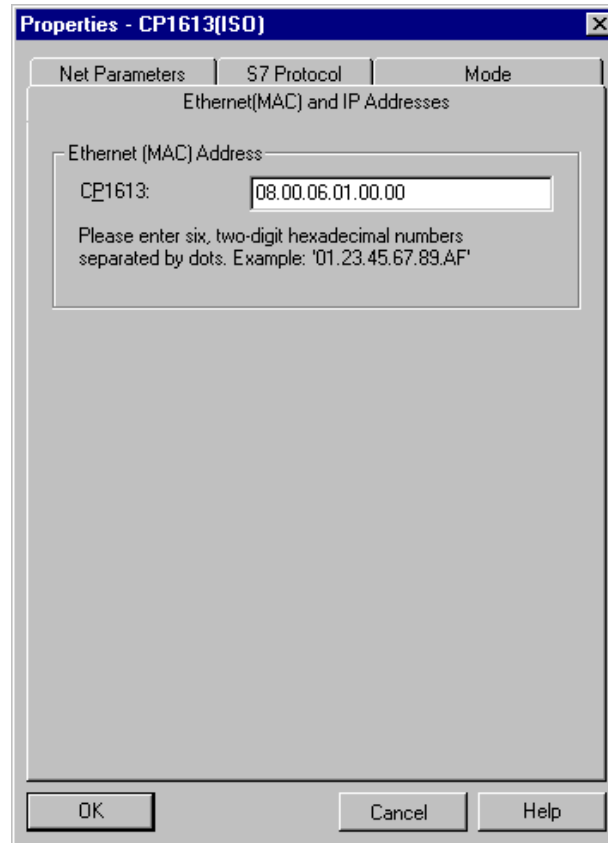

Figure 3-11 Setting the CP Properties
4. Select the settings for the corresponding node CP under “Properties” as in Figure 3-11.